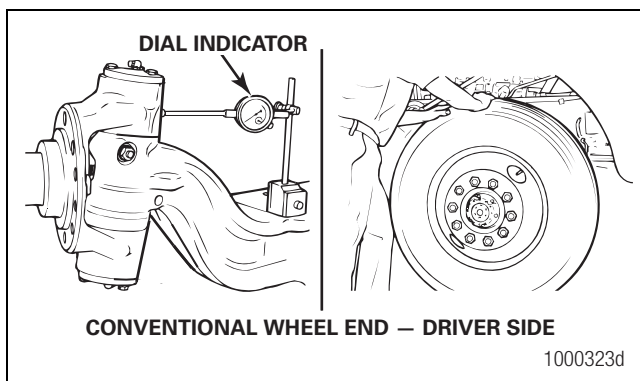
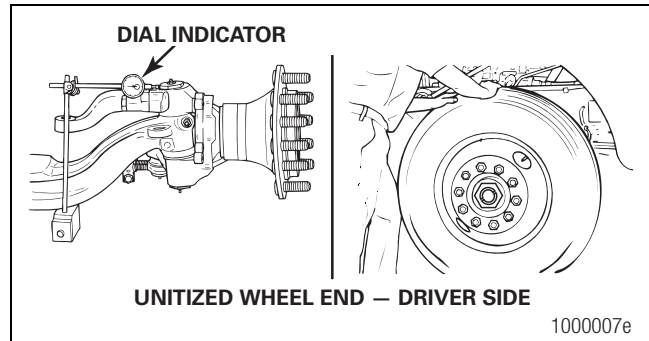

Figure 6.11
Figure 6.12
3. Check the upper king pin bushing for wear. Install a dial indicator with the base on the I-beam and the tip against the side of the top of the knuckle. Figure 6.11 and Figure 6.12.
- **If the indicator moves a total of 0.015-inch (0.381 mm):** The upper bushing is worn or damaged. Replace both bushings in the knuckle. Refer to Maintenance Manual 2, Front Non-Drive Steer Axles, for more information. Figure 6.11 and Figure 6.12.